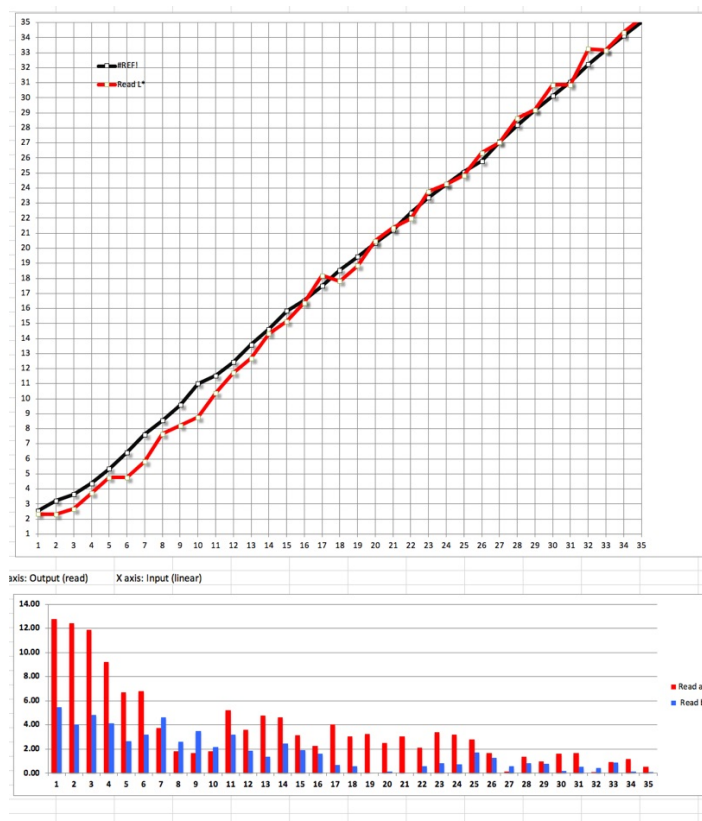

Figure 70. B&W Ramp, Dark Tones, BCI Profile from SilverFast Refl. Target
The performance verification for my Neutral scale targets (3 sheets, L\*1 to L\*100) showed mixed results (Figures 70, 71 and 72 for the Dark, Mid and Light tones respectively). The Luminance outcomes are on the whole good, however, some of the hue bias could be better. The interesting point to be made about this, however, is that the worst hue bias occurs in the darkest tones where it is hardly visible, and correctable in post-scan editing. Perhaps also relevant to the convergence (or not) between perceptual and statistical accuracy, while these profiles are optimized for dE2000, the measurements in the three Figures below are more akin to dE(76) – numerical differences unadjusted for non-linearity of human visual perception.
Concerning the dark tone ramp in Figure 70, there are generally two main ways of colour-managing a scan: (A) assign the scanner profile and select the working space in the scanning application (if it is colour-management aware), or (B) send a completely unmanaged scan to a post-scan image editing application, such as Photoshop, and assign the scanner profile and convert to working space there. Normally, one expects these two approaches to yield identical results, but occasionally they don't (why, I have no idea). For all colour-managed scanning in this article I have been doing (A), but to get a roughly correct luminance curve with the BCI5 profile in the dark tones only, I needed to implement (B). This is just to suggest that if you are working with these procedures and aren't satisfied with the result from one, it could be worthwhile trying the other.